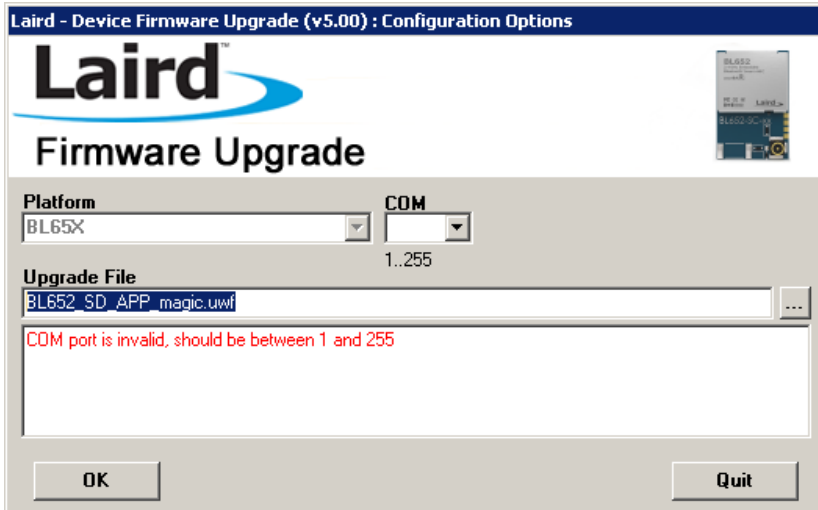

Figure 3: BL65xUartFwUpgrade launch screen
5. Start BL65xUartFwUpgrade.exe to display the launch window (Figure 3).